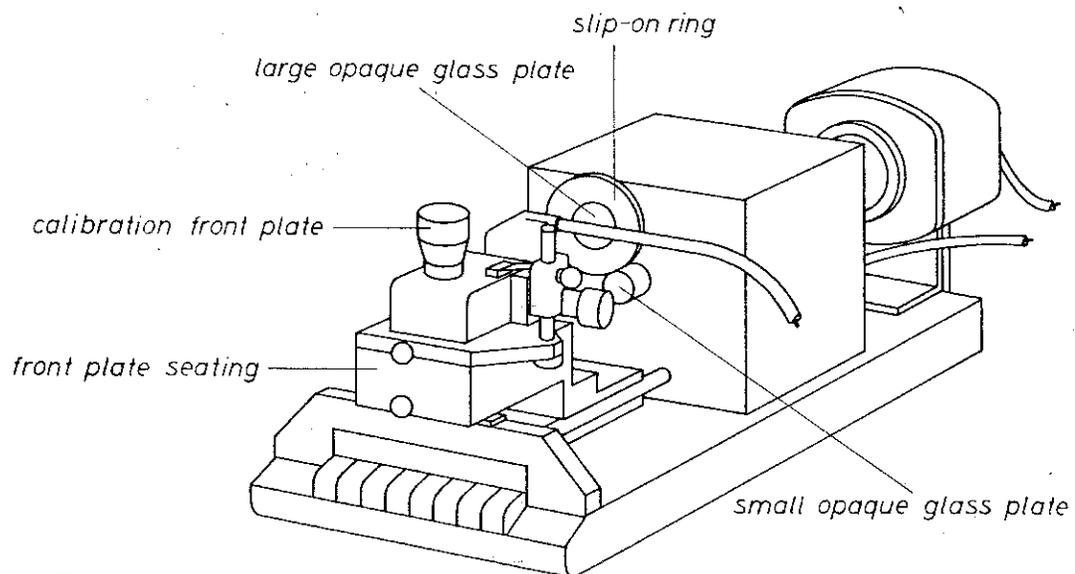

Fig. 6.1
- 2.1 Key 6 of test light remains depressed. Fit slip-on ring (see Fig. 6.1) over large illuminated opaque glass plate.